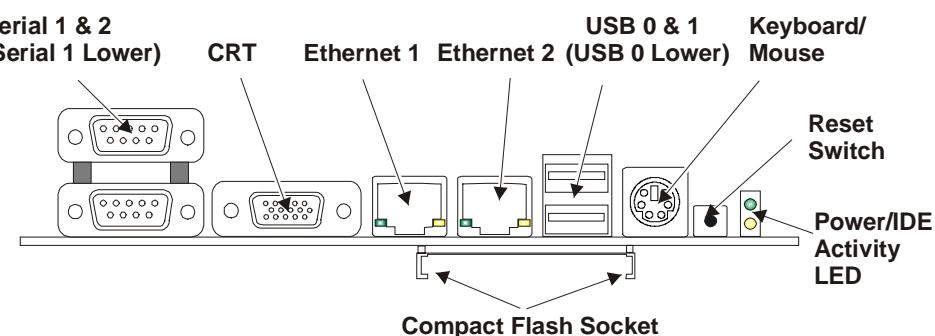

Figure 1-3. I/O Panel Controls, Connectors, and Indicators
7) Connect the Y-cable and the respective peripheral cables/devices	<ul style="list-style-type: none"> This includes the Y-cable for the PS/2 keyboard & mouse. Refer to Figure 1-3 and Table 1-1 for location and description of the connectors and controls.
<ul style="list-style-type: none"> Connect the PS/2 Keyboard & Mouse Y-cable assembly to the Keyboard/Mouse port on the ReadySystem 1U I/O Panel. See Figure 1-3. This cable assembly provides two connectors for the PS/2 Keyboard and PS/2 Mouse shared port with icons for the specific device.
<ul style="list-style-type: none"> Connect the CRT (VGA) monitor through its 15-pin cable to the CRT (VGA) connector on the I/O Panel of the ReadySystem 1U. See Figure 1-3.
- Connect the DC power adapter or customer supplied DC supply into DC IN jack of ReadySystem 1U. See Figure 1-3.
- Plug the CRT monitor's power cord into an AC outlet, and turn on the monitor. See Figure 1-3.
- Press the ReadySystem 1U's momentary power switch (≈ 1 sec) before continuing. See Figure 1-3 and Table 1-1.